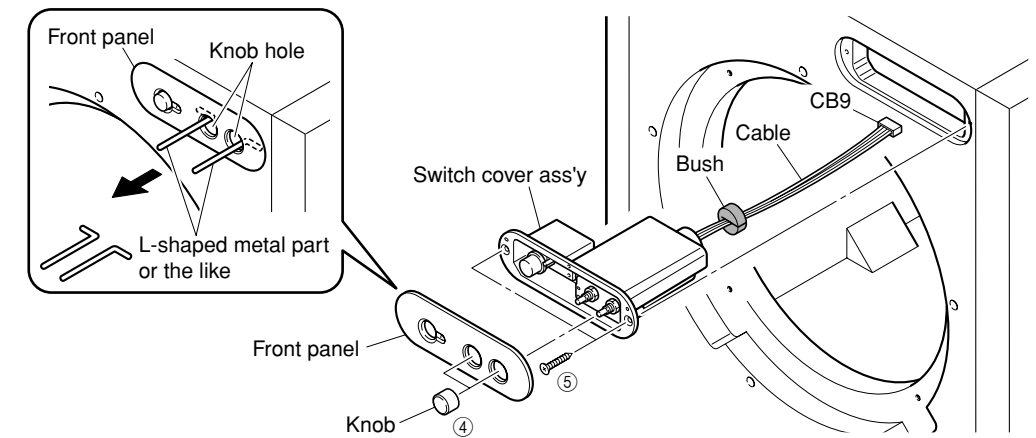

Fig. 3
- Remove 2 knobs (④). (Fig. 3)
- Remove 2 screws (⑤). (Fig. 3)
- Pull out the switch cover ass'y. (Fig. 3)
- Remove bush. (Fig. 3)
- Remove the switch cover ass'y together with the cable/ CB9. (Fig. 3)